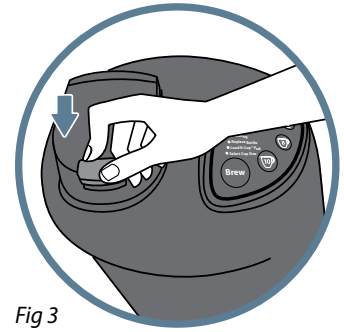

Fig 3
3. Pull down on silver handle until locked (Fig 3).